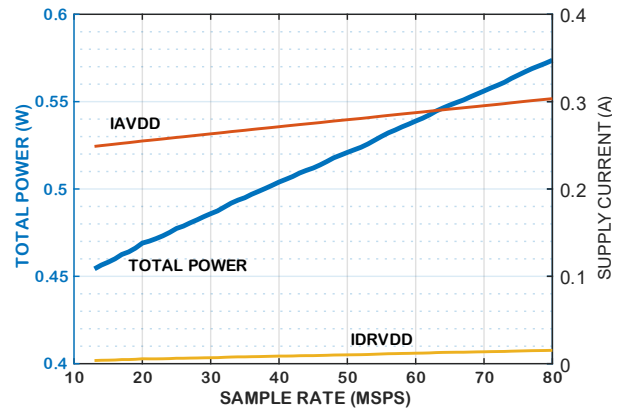
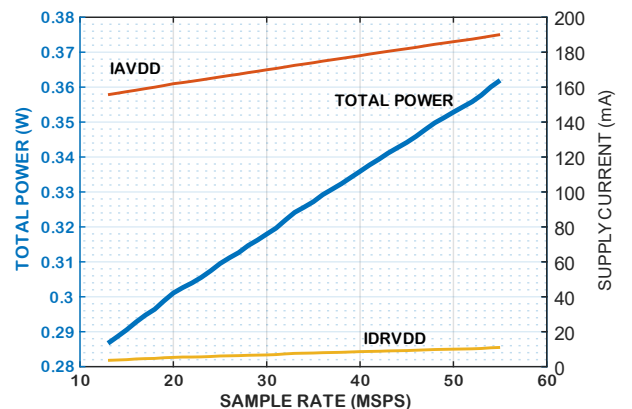

Figure 70 – Power and Current vs. Sample Rate
Figure 72 – Power and Current vs. Sample Rate in RP Mode
As shown in Figure 70 - Figure 72, the power dissipated by the IC is proportional to its sample rate. In CMOS output mode, the current of the digital drivers is defined by their strength and the load on each output bit (CL). The maximum current at DRVDD pin can be approximately calculated as